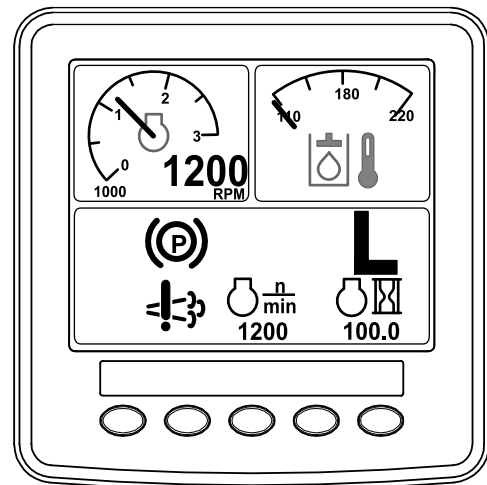

Figure 47
- The recovery-regeneration icon displays in the InfoCenter (Figure 47).